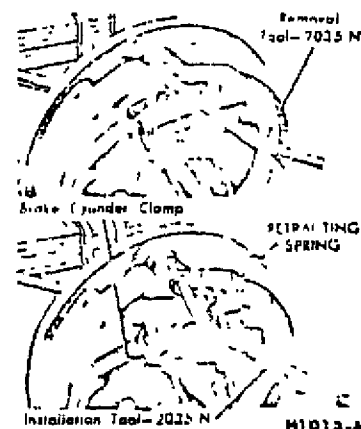

FIG 5 Retracting Spring Replacement—Typical
- 2 Clamp the brake cylinder boots against the ends of the cylinder and remove the brake shoe retracting springs using Tool 2035-N (Fig. 5).
- 4 Install the retracting springs using Tool 2035-N (Fig. 5).